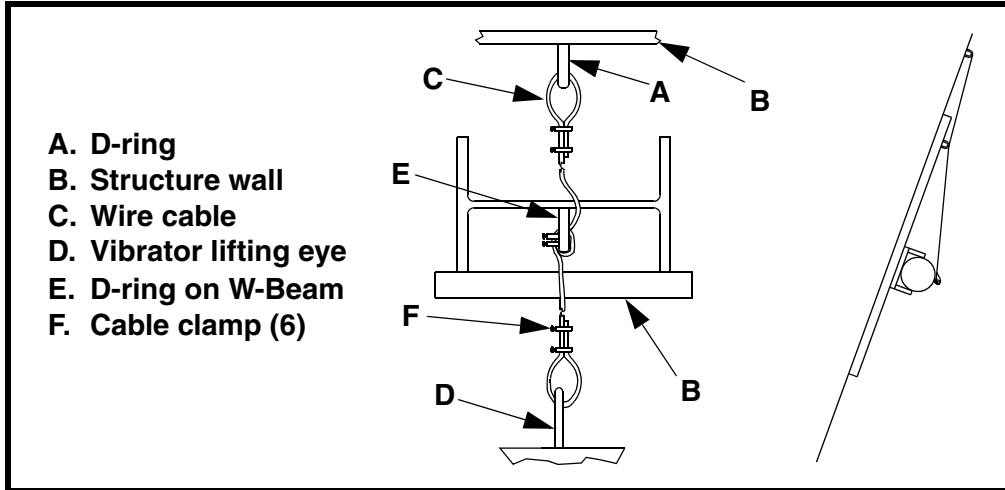

Figure 4. Installing Restraining Cable
- a. Weld D-ring (A, Figure 4) onto structure wall (B) above vibrator.